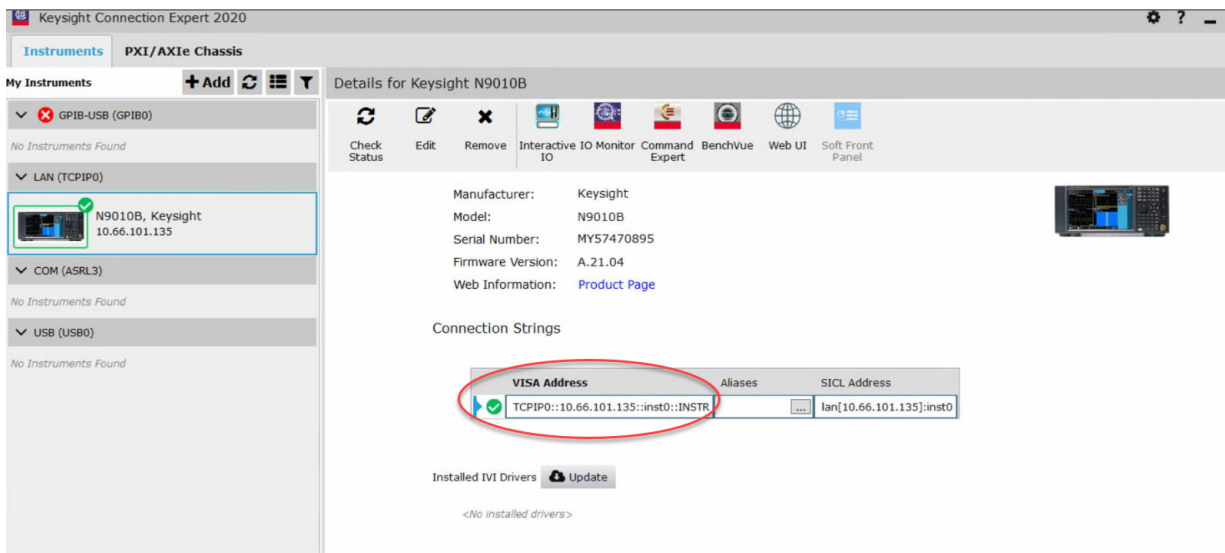

Figure 29 Checking VISA/SICL address for Spectrum Analyzer in the Keysight Connection Expert
- 11 A pop-up box appears where you can enter either the VISA/SICL address or the IP address. Enter the information and click the **Verify** button, followed by the **Done** button to close this box. The VISA/SICL address or the IP address can be obtained from the Keysight Connection Expert application, as shown in Figure 29.